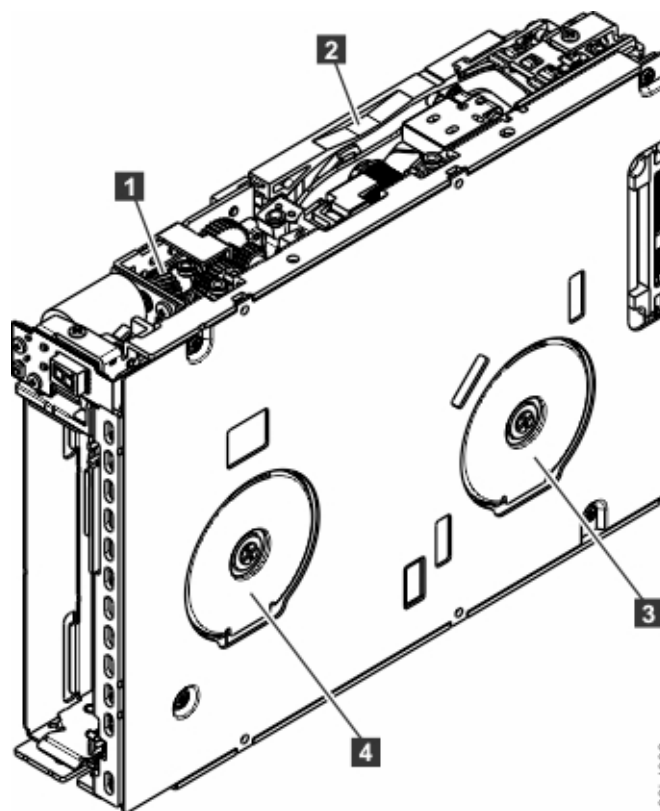

Figure 24. Rewinding tape into cartridge
3. Turn the supply reel (**4** in Figure 24 on page 86) clockwise.
4. Continue spooling into the cartridge until the tape is taut and remains within the flanges of the tape guiding rollers. Turn the supply reel (**4** in Figure 24 on page 86) 10 turns. Ensure that you do not stretch the tape.